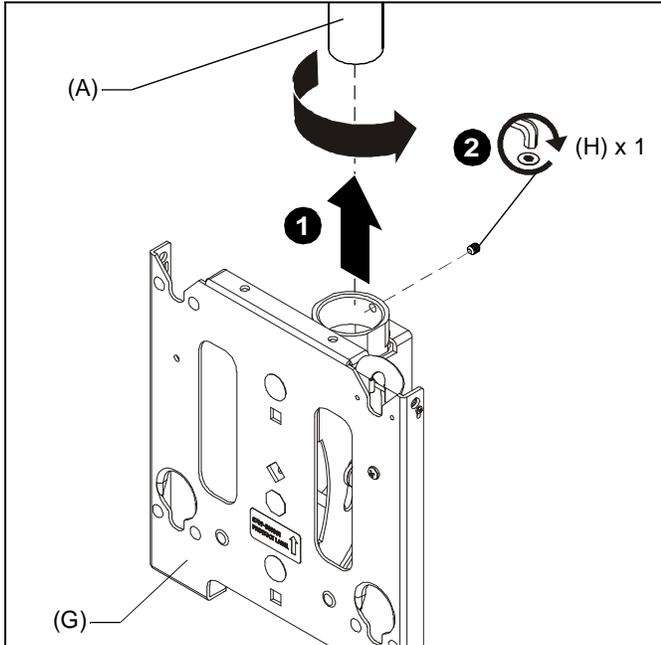

Figure 7
1. Thread the faceplate (G) onto pipe (A) until tight. (See Figure 7)
2. Install and tighten the 5/16-18 x 3/8" set screw (H) using the 5/32" hex key (E). (See Figure 7)